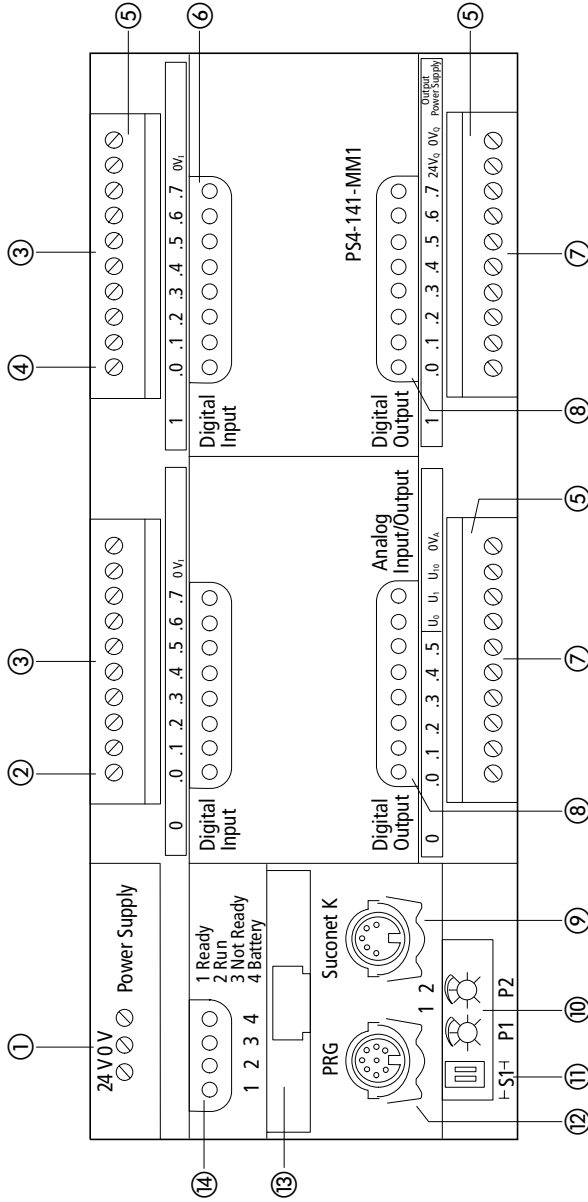

Figure 1: Setup of the PS4-141-MM1
Figure 1 and 2 provide an overview of the controls and indicators of the programmable controllers as well as the device connections.
Legend for Figure 1:
The element numbers ① to ⑭ described in detail below refer to Figures 1 and Table 2.
① Power supply unit